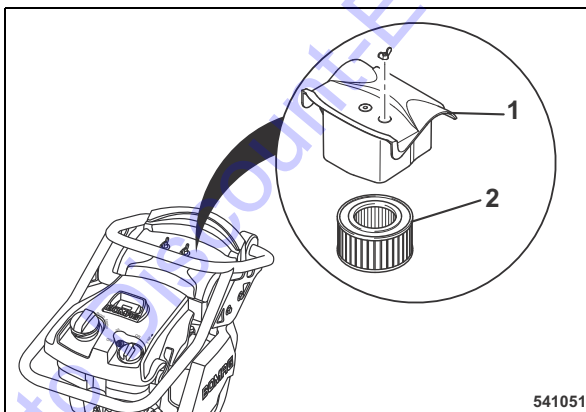

Fig. 46
- Remove the air filter cover (1) (Fig. 46) and take off the filter cartridge (2).